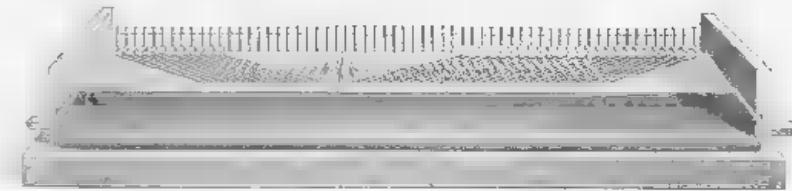

FIG. 4—OCTAVE COUPLERS
**The Swells and Couplers** In Fig. 4 are shown the octave couplers (the bent wires) which connect each valve with the valve of the corresponding note—an octave higher in the treble and an octave lower in the bass—thus doubling the volume of sound. The